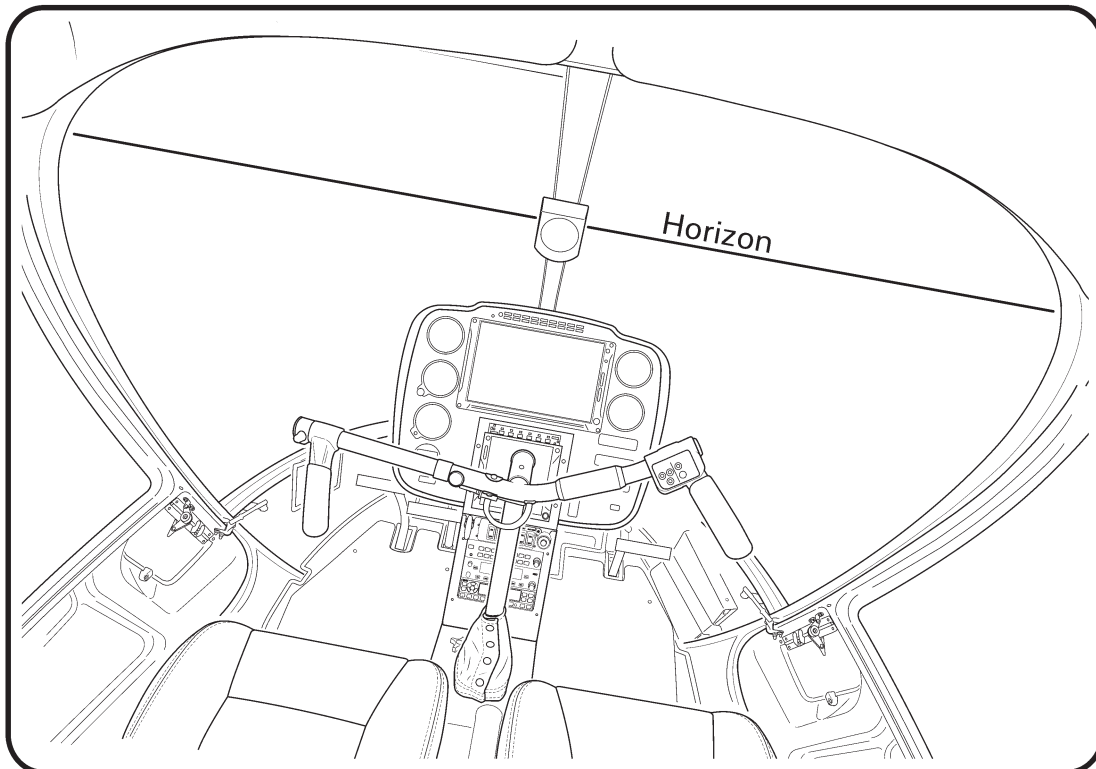

**FIGURE 4** Terminating locations for D844-2 harness wiring
13. Refer to Figure 4. Route D844-2 harness wire (-3080) to ground stud on C351-1 LH aft seat back brace. Cut wire to length and strip end. Install B260-3 ring terminal to wire. Inspect crimp per MM § 23-84. Verify security of terminal. Install ring terminal to ground stud.
14. Refer to Figure 4. Route D844-2 harness wire (-3048) to engine oil pressure switch. Follow main harness aft thru firewall, moving B270-5 sealant as required. Follow wire bundle to oil pressure switch. Trim wire to length and strip end. Install B260-3 ring terminal on wire. Inspect crimp per MM § 23-84. Verify security of terminal. Install ring terminal to “NC” terminal on oil pressure switch. Ensure seal around wire bundle and firewall is restored, adding B270-5 sealant as required.
- 16. Refer to Figure 4. Route D844-2 harness wire (-3079) to main bus as shown, along airframe harness to circuit breaker panel. Carefully remove ty-raps from airframe harness and secure wire (-3079) to airframe harness using appropriately sized ty-rap. Cinch ty-rap until snug without over tightening, and trim tip flush with head. Strip wire and install on D844-4 fuse assembly. Inspect crimp per MM § 23-84. Verify security.